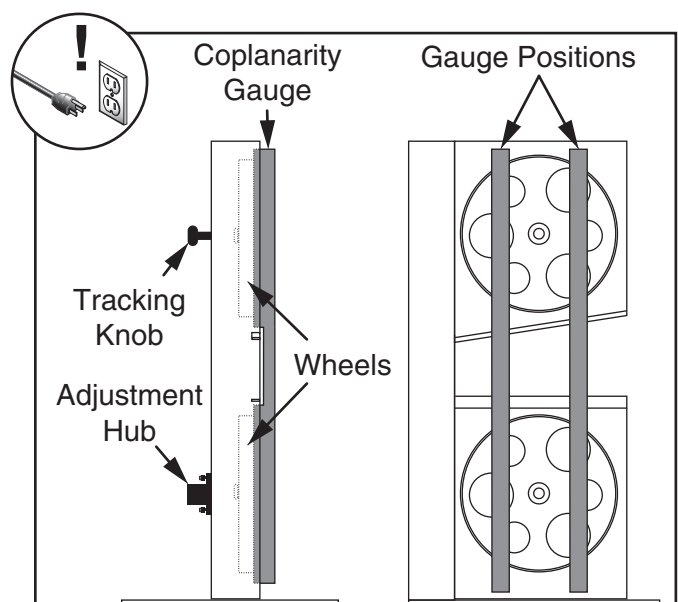

Figure 114. Checking for coplanarity.
7. Place your coplanarity gauge up against both wheels in the positions shown in **Figure 114**.